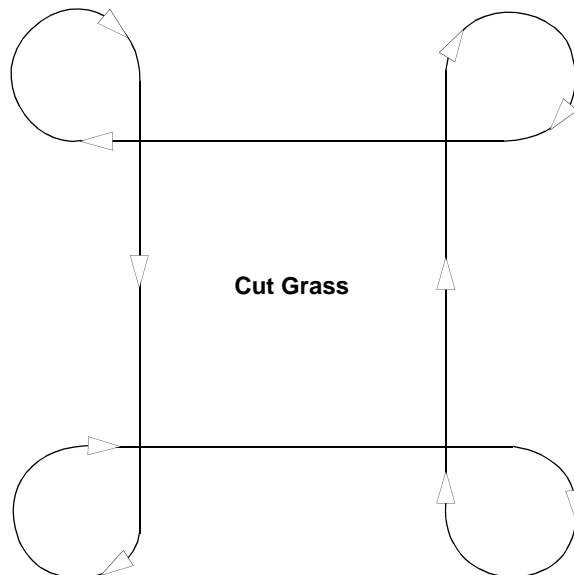

Figure 29
4. Follow the mowing path shown below. (See Figure 29)